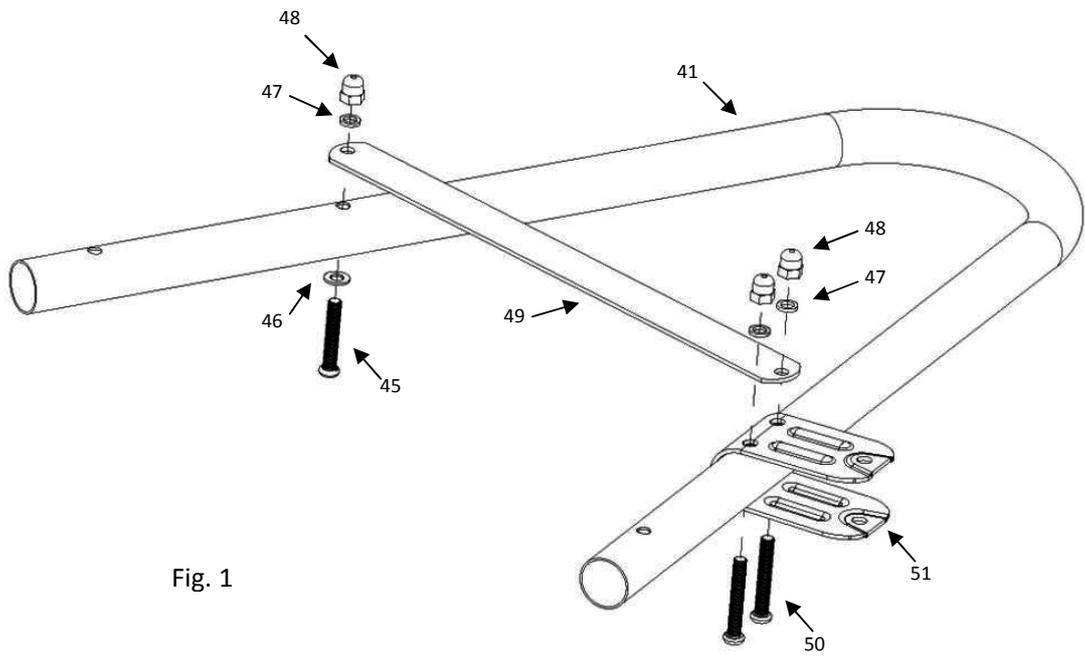

Fig. 1
1. To prepare the **Ladder Handle Ass'y** (see Fig. 1), the Machine Screws (50) should be installed from the inside of the Ladder Hinge (51) and then through the Ladder Handle (41), and out through the Ladder Brace with the safety label (49) on the outside. Make sure that the English warning label is facing out on both handle sections. Install the Lock Washer (47), and thread the Cap Nut (48) on until the Ladder brace tightens up against the Handle.
2. The Machine Screws (45) should be installed from the inside of the Ladder Handle (41), and out through the Ladder Handle. Install the Flat Washer (46), Lock Washer (47), and thread the Cap Nut (48) on until the Ladder Brace (49) tightens up against the Ladder Handle. (See Fig. 1)